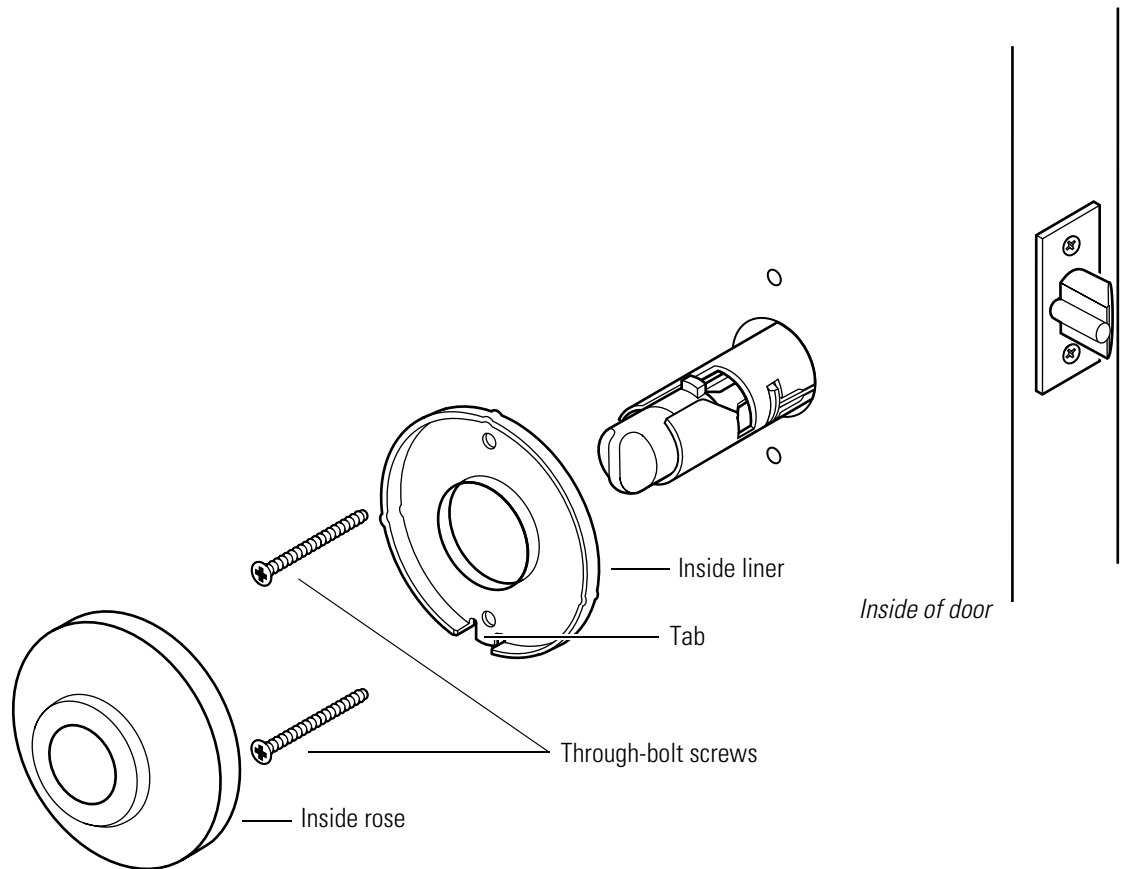

Figure 3.5 Reinstalling the inside rose and rose liner
1. Align the holes in the liner with the holes prepared in the door, as shown in Figure 3.5.